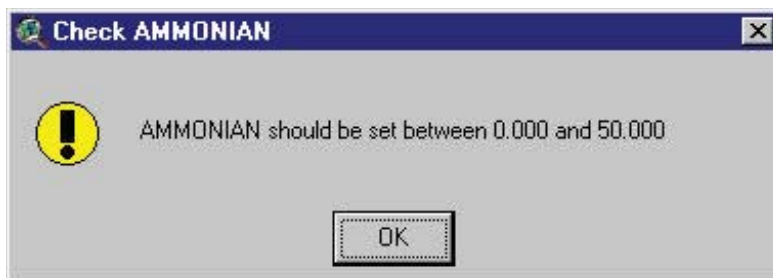

Figure 12.91
3. Edit data: Activate a parameter text box by clicking on it. Type the desired value. You can move to the next parameter text box by pressing the `Tab` key. If the value of the parameter is out of range a message box like the one in Figure 12.91 pops up.